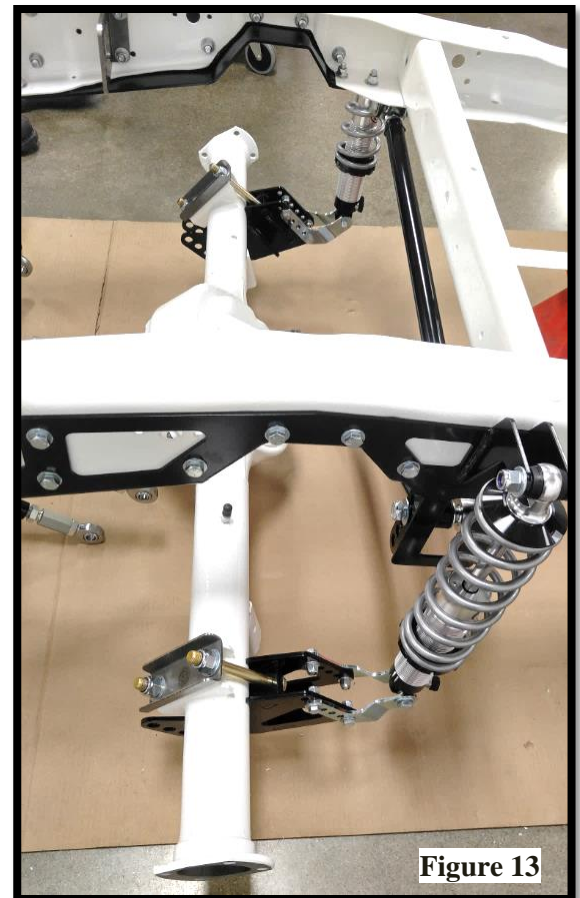

**Figure 12**
20. Install left and right shock mount onto each axle mount using 3/8" x 1.25" hardware. **(Figure 12)** Torque to 31 lb. ft. (1/2" hardware to be used to install coil-over shocks)